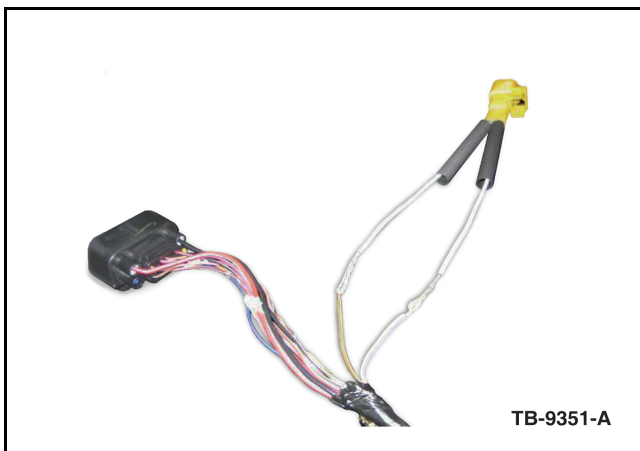

Figure 5 - Article 09-8-7
6. Refer to WD, Section 5-5 for soldering the service pigtail connector onto the harness. Install heat shrink tube onto service pigtail wires prior to soldering. (Figure 5)